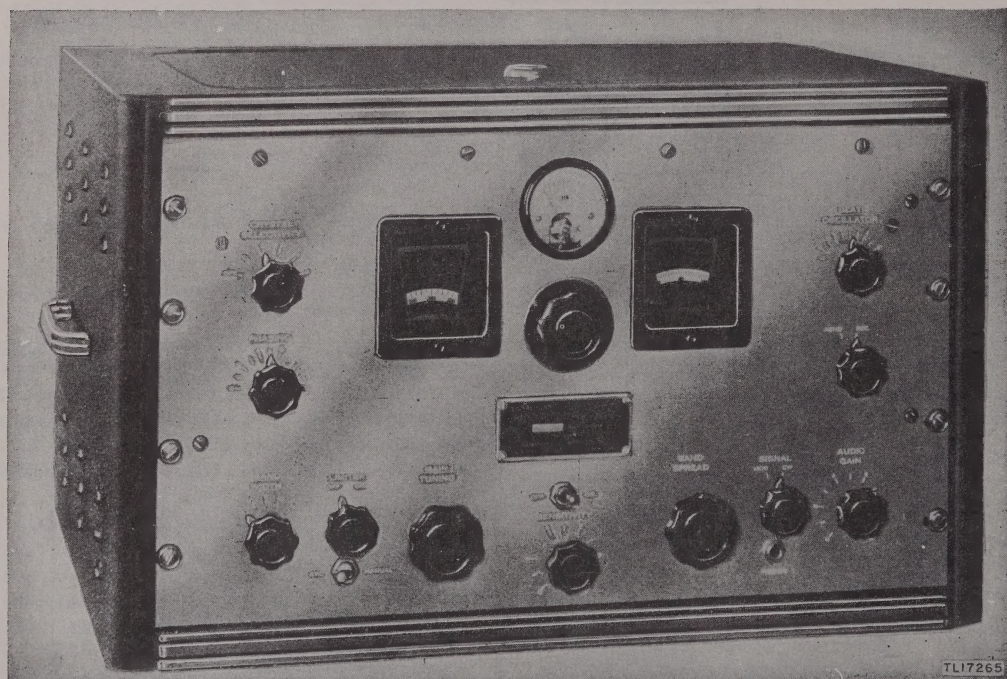
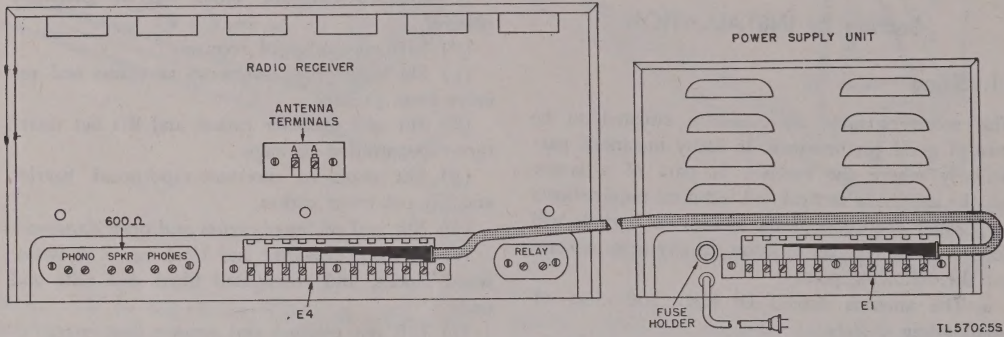
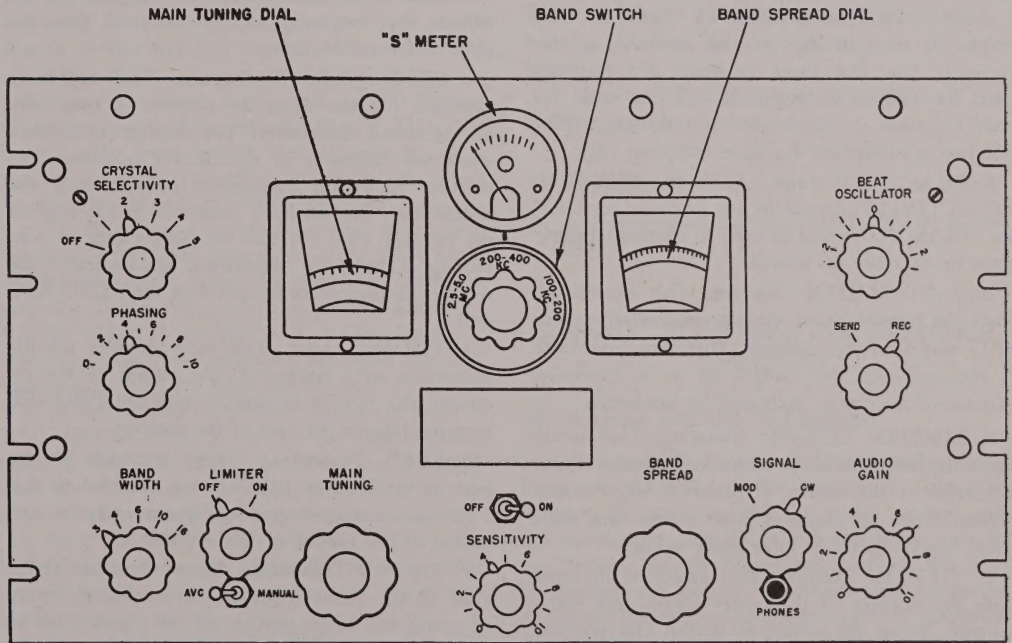

Figure 6. Radio Receiver BC-779-B in Cabinet CH-104-A.
Figure 10. Cable connections for a-c operation.
Figure 15. Radio Receiver BC-779-B, front panel.
in Cabinet CH-104-A (fig. 6). The under side of the receiver chassis is equipped with a steel cover plate which has heavy, felt-covered feet in the corners. The rear of the chassis (fig. 10) is provided with a terminal strip which is used in making connection either to the power supply unit or to batteries. The S meter located at the top center of the receiver panel is not supplied with Radio Receiver BC-1004-D.
- (1) Remove the sheet metal covers from the terminal strip E4 on the rear of the receiver and from the terminal strip E1 on the power supply unit.
- (2) Make sure that all 10 screws on each strip are unscrewed at least three turns.
- (3) Attach one end of the connector cable to each terminal *exactly* as shown in figure 10 and
d. **EARPHONES.** Insert the plug of Headset HS-30 (or any other available headphone) into the PHONES jack (fig. 15), or connect it to the screw terminals marked PHONES on the rear of the chassis (fig. 10). No matching transformer is necessary.
15. Receiver Controls (fig. 15)
o. SEND-RECEIVE SWITCH. This switch is provided for use when the receiver is used with an associated transmitter. The receiver is silenced when the switch is in the SEND position. This position allows the receiver to remain ready for instant use. The RELAY terminals at the rear of the receiver (fig. 10) are for convenience in connecting a relay to disconnect automatically the receiver in preference to operating the SEND-REC switch.
q. SPKR TERMINALS. These terminals on the rear of the receiver (fig. 10) are provided so that a permanent magnet type loudspeaker may be connected to the output of the receiver.